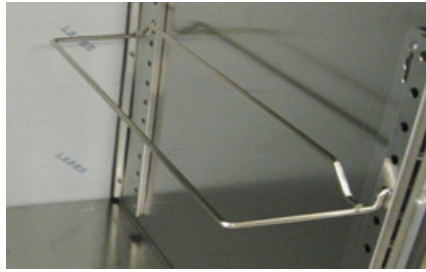

Fig. 1, Tray slide install
4. Remove universal tray slides from box. Install tray slides in the uprights at desired levels. Make sure the hook on the end of the tray slide is up (*Fig. 1*). To prevent tilting, tray slides should be placed in matching positions on both sides. For this unit, the bottom 2 holes (levels) closest to Interior pan are not intended for use.